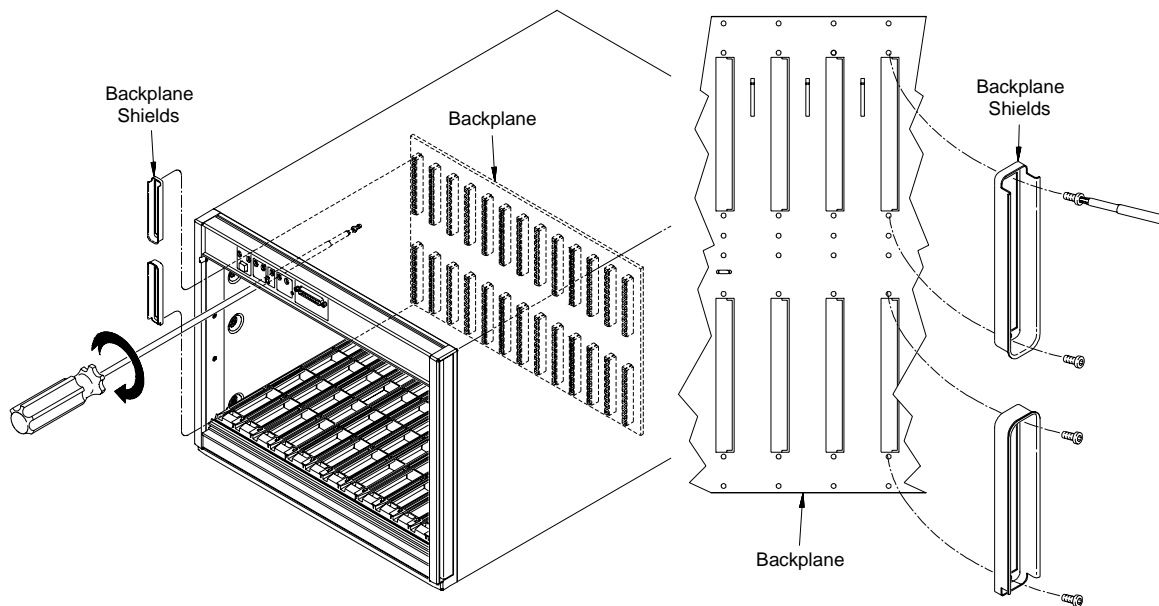

Figure 2-14. Positioning the Backplane Shields on the Connectors.
1. Position the shields over the backplane connectors as shown in Figure 2-14. Two connector shields and four screws are required for each slot.